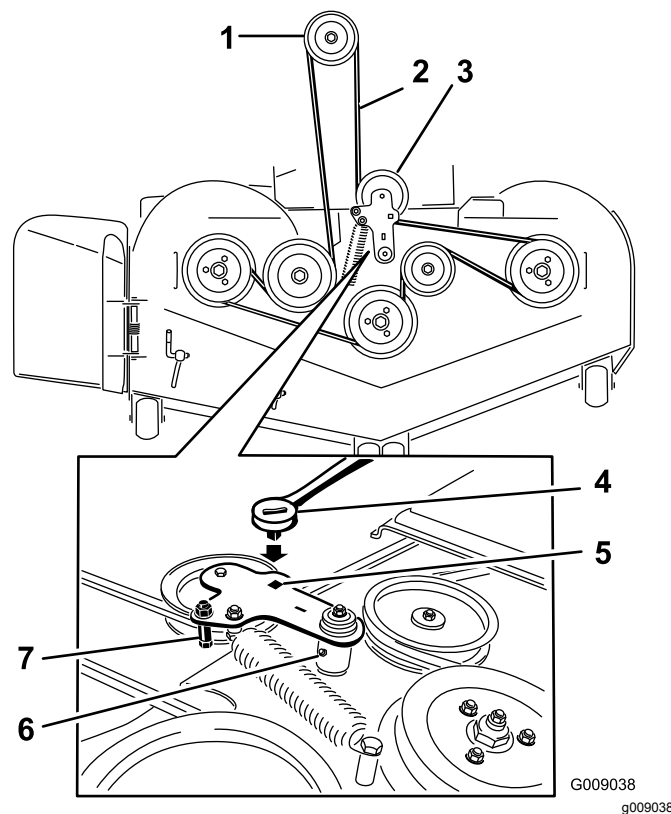

Figure 83
5. Use a ratchet in the square hole in the idler arm to remove tension on the idler spring (Figure 83).
7. Remove the belt guide on the spring-loaded idler arm shown in Figure 83.
9. Install the new belt around the mower pulleys and the clutch pulley under the engine (Figure 83).
10. Install the belt guide on the idler arm shown in Figure 83.
11. Using the ratchet in the square hole, install the idler spring (Figure 83).